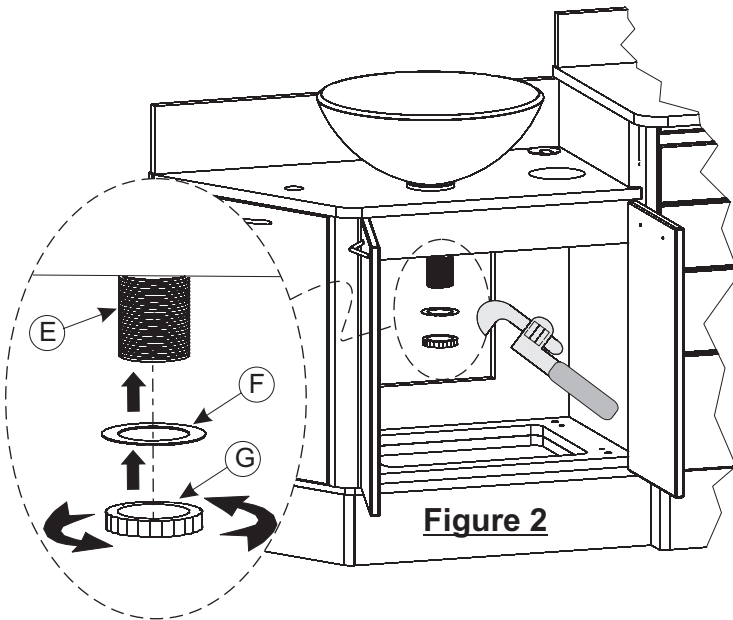

Figure 2
Connect Drain Assembly Nut (G) to Drain Assembly (E) along with the Small Plastic Washer (F) and hand tighten to check for alignment then use pipe wrench to complete tightening (see Figure 2).